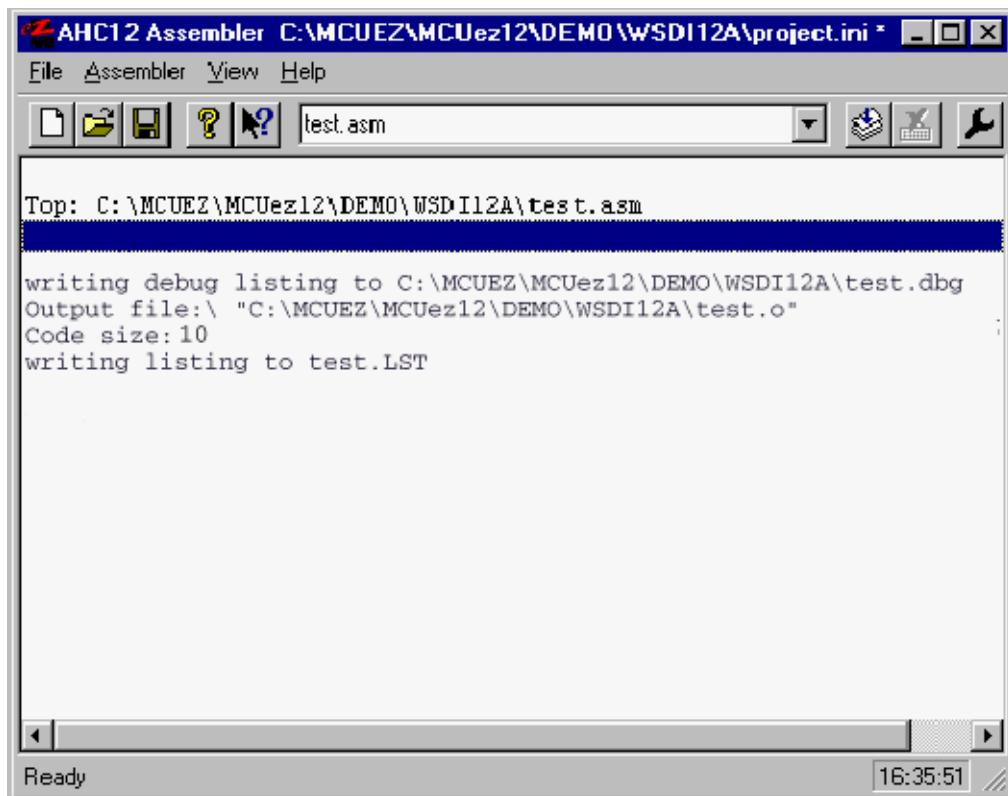

Figure 1-8. Assembling a File
4. The file is assembled, as shown in **Figure 1-8**, when the **Assemble** button is clicked.